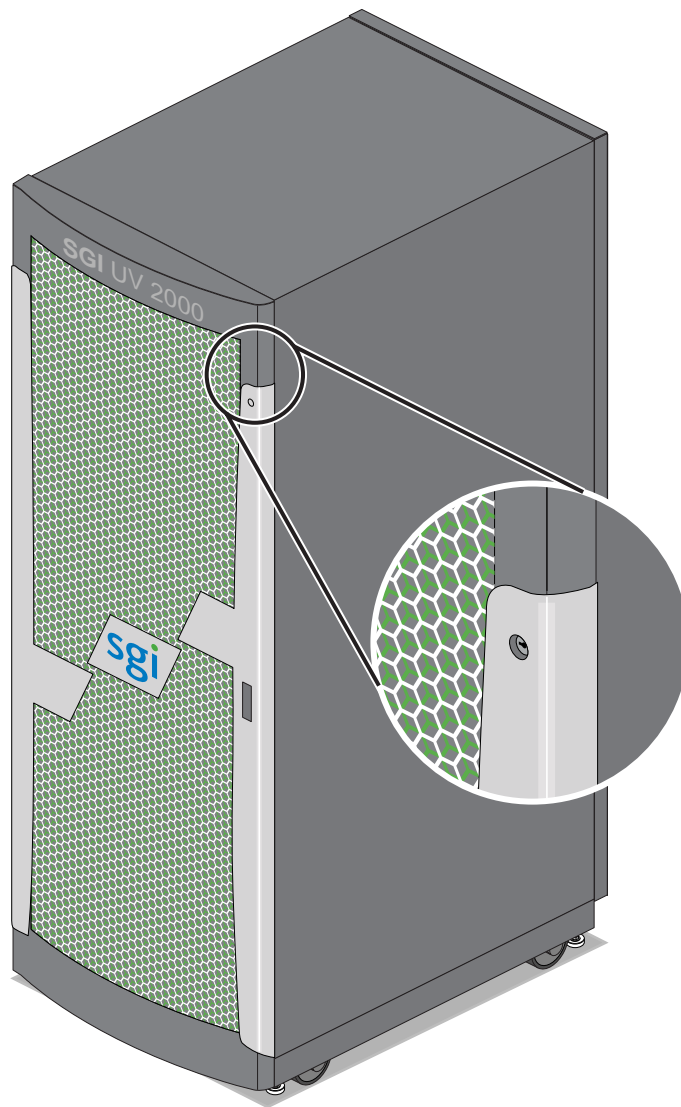

Figure 4-2 Front Lock on Tall (42U) Rack
At the time this document was published only the tall (42U) SGI UV 2000 rack (shown in Figure 4-2) was available from the SGI factory for use with the SGI UV 2000 systems. Other racks may be available to house the system IRUs, check with your SGI sales or service representative for information.
- **Front and rear door.** The front door is opened by grasping the outer end of the rectangular-shaped door piece and pulling outward. It uses a key lock for security purposes that should open all the front doors in a multi-rack system (see Figure 4-2 on page 54).